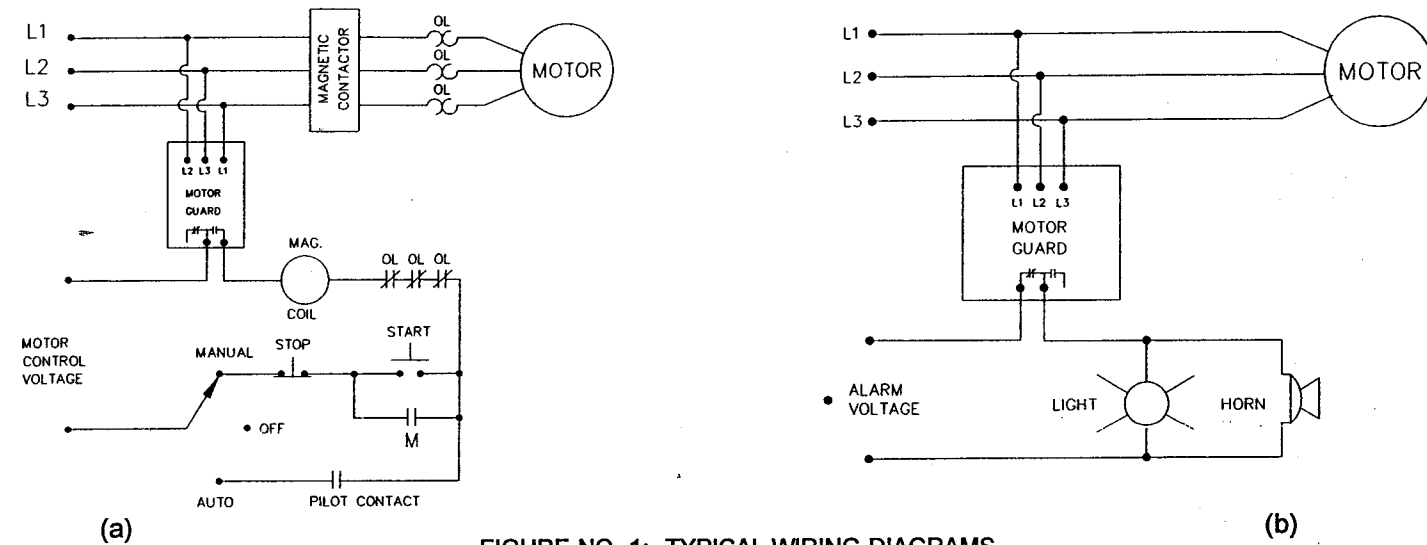

FIGURE NO. 1: TYPICAL WIRING DIAGRAMS
3. Connect the output relay to the circuitry to be controlled (See Figure No. 1).
- a. **To control a motor:** Connect the normally open contact in series with the magnetic coil of the motor starter as shown in Figure No.1 (a).
- b. **To sound an alarm:** Connect the normally closed contact in series with the alarm as shown in Figure No. 1 (b).